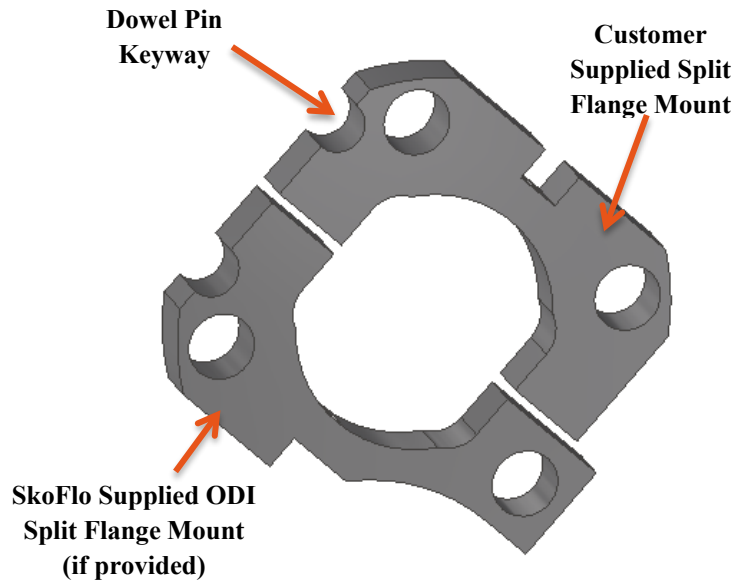

Figure 65: ODI Split Flange
- 26.3.5.3.1 The manufacturer's supplied connector should include two halves of a split flanged clamp with fasteners. If a SkoFlo split flange mount is provided with the receptacle, use the modified flange and customer supplied split flange mount as shown in Figure 65.